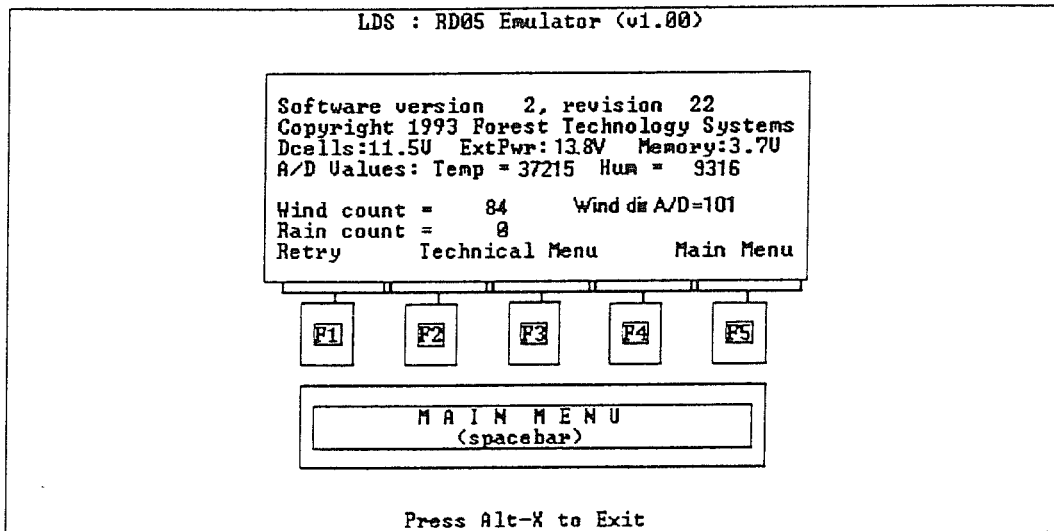

Figure 7-9
1. From the Technical Menu select "Technical Info" with the F1 key. You will be presented with the screen shown in Figure 7-9. The main areas of interest in this screen are the battery voltages and the wind count.